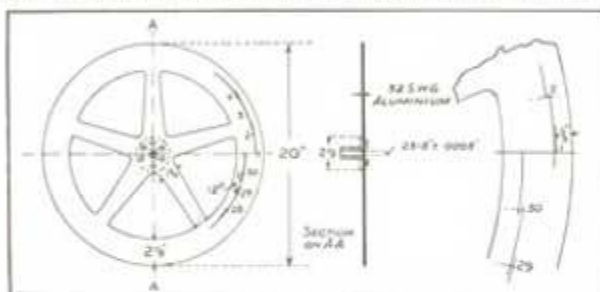

FIG. 1.
1. **THE BAIRD GRADUATED DISC** is shown in the Diagram Fig. 1. It is 20 inches in diameter, made of light aluminium and perforated with a series of 30 apertures, arranged in a spiral.